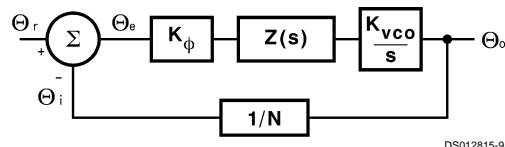
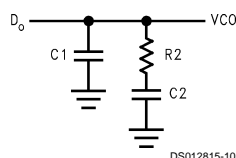

FIGURE 2. PLL Linear Model
FIGURE 3. Passive Loop Filter
A linear control system model of the phase feedback for a PLL in the locked state is shown in Figure 2. The open loop gain is the product of the phase comparator gain (K_ϕ), the VCO gain (K_{vco}/s), and the loop filter gain $Z(s)$ divided by the gain of the feedback counter modulus (N). The passive loop filter configuration used is displayed in Figure 3, while the complex impedance of the filter is given in Equation (2).